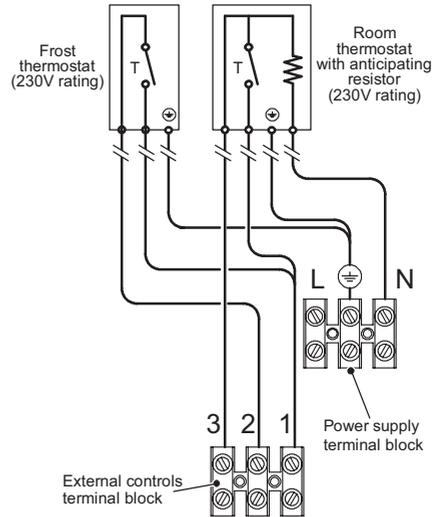
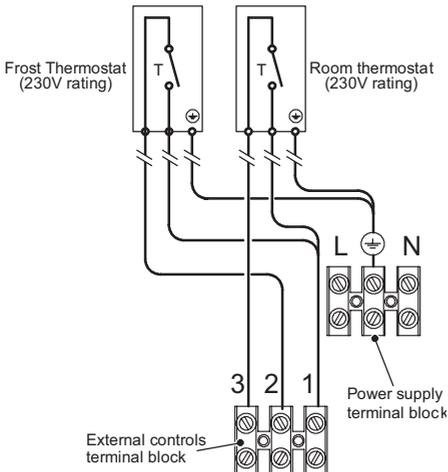

Fig. 6.18
Fig. 6.17
- Connect the frost thermostat between terminals 1 and 2 as shown in Fig. 6.17 or Fig. 6.18. **Do not connect live wires to terminals to which the room thermostat must be connected.**